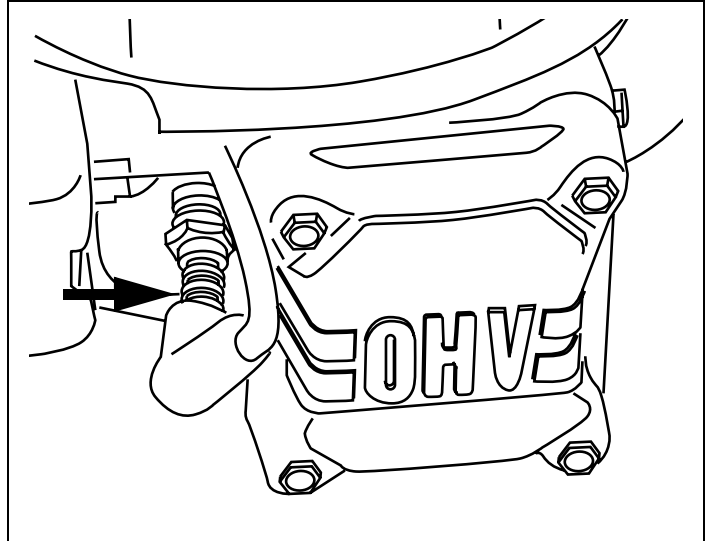

Figure 31. Typical Spark Plug Connection
15. Carefully re-connect spark plug wire to spark plug. See Figure 31 on page 14.